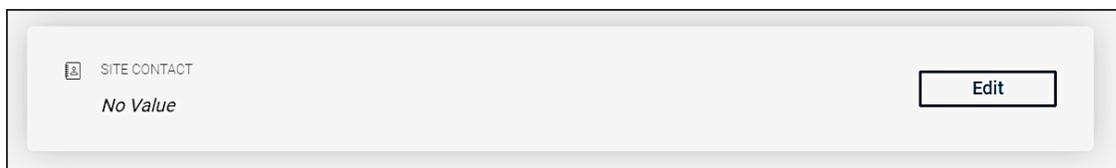

Figure 63. Editing
3. Scroll the mouse over any field and click "Edit" button to change its information. See **Figure 63**.